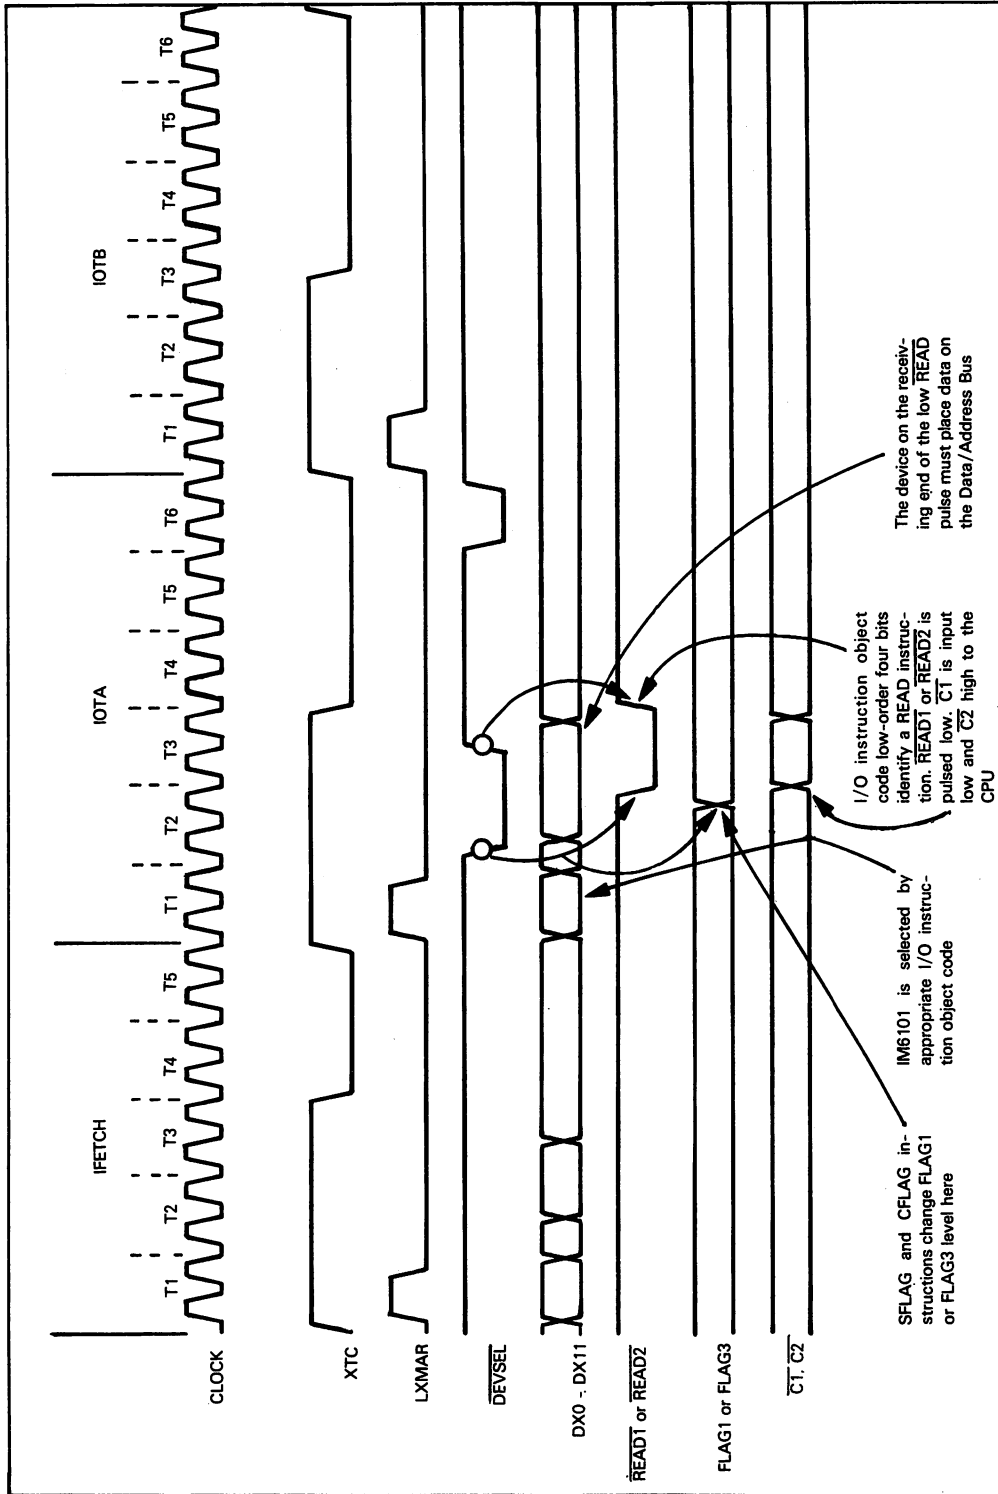

Figure 13-32. An IM6101 I/O Read Instruction's Timing
The two read instructions, **READ1** and **READ2**, cause data to be transferred from an external device to the CPU. Timing is illustrated in Figure 13-32. The IM6101 outputs a low  $\overline{\text{READ1}}$  or  $\overline{\text{READ2}}$  pulse, which acts as both a select signal and a strobe signal for the external device which is to transmit data to the IM6100 CPU. The IM6101 transmits  $\overline{\text{CT}}$  low and  $\overline{\text{C2}}$  high to the CPU in order to identify the I/O instruction as a Read. The actual data transfer occurs directly between the selected device and the IM6100 CPU via the Data/Address Bus.
**There are four instructions which directly control the level of FLAG1 and FLAG3 flag outputs. These four instructions are SFLAG1, SFLAG3, CFLAG1 and CFLAG3.** When any one of these four instructions is executed, the flag output changes state during T2 of IOTA, as illustrated in Figure 13-32. In addition to changing the level of the flag output, these instructions modify the associated Control Register A bit.